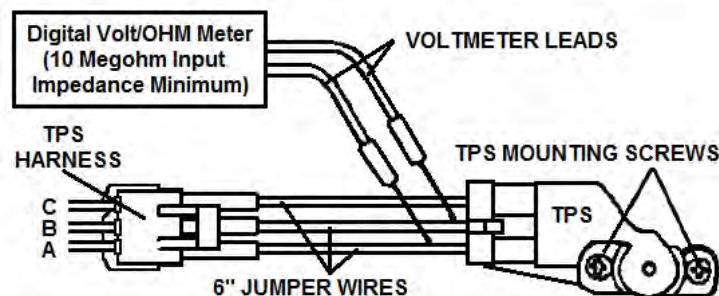

Figure 20: TPS Adjustment and Jumper Placement
2. Install an additional wire to both the black and the blue wire leading to the TPS as shown in Figure 20.